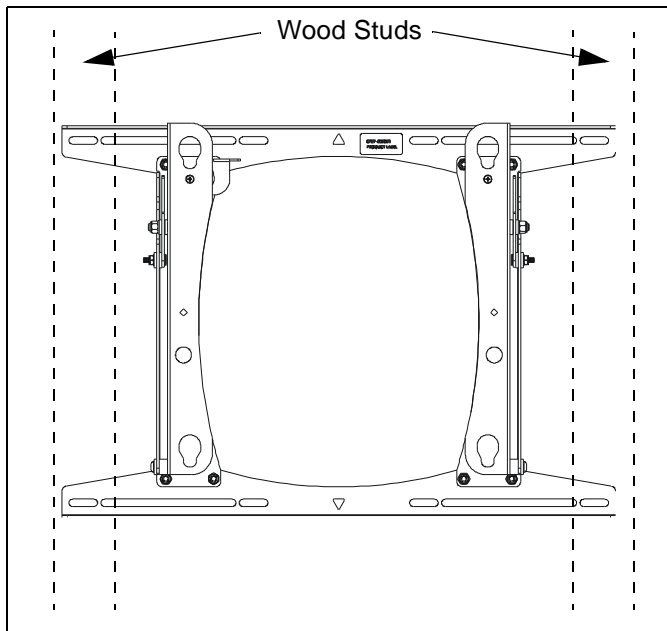

Figure 5
- 24" on center studs: The mount must be centered between the studs (See Figure 5).
8. Install four 5/16" x 2-1/2" lag bolts (20) and four 5/16" washers (30) through mounting holes and into pilot holes. Tighten all lag bolts.